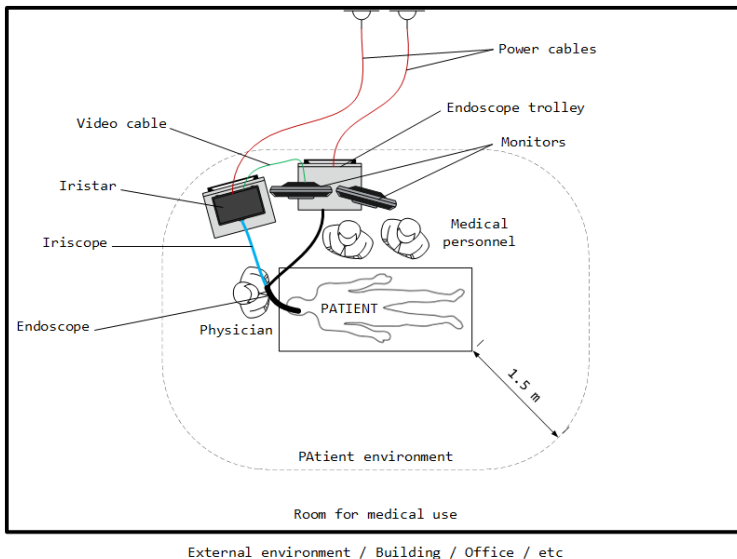

Figure 11 - Device setup in the endoscopy suite
1. Install the control box in the endoscopy suite 1 m from the patient at most and close to the endoscopy trolley (see Figure 11) making sure that the ON/OFF switch and the power cable (see No. 6 and No. 7 of Figure 5) are always accessible to disconnect the control box.